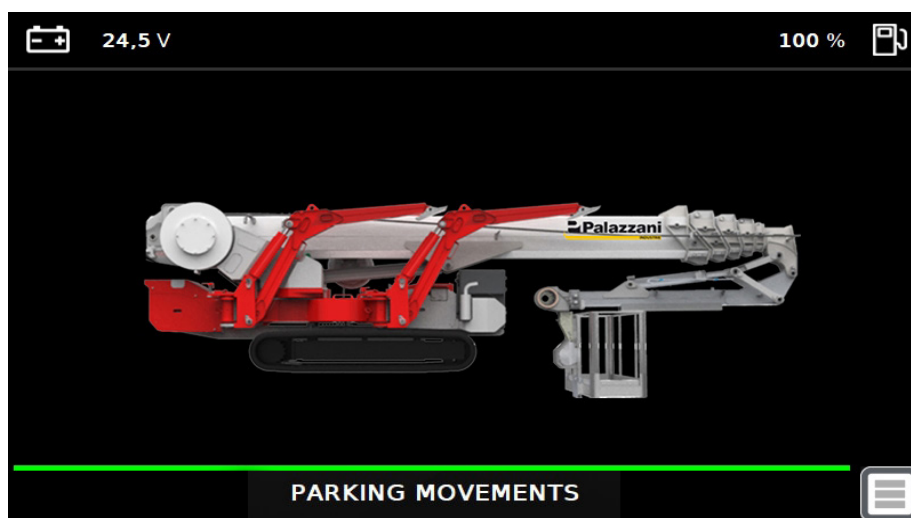

fig 3.6b
- Press the button FN (Part. 9 fig. 3.1), the button starts to blink followed by an intermittent sound. The display will show “parking movements” as indicated in Fig 3.6b.